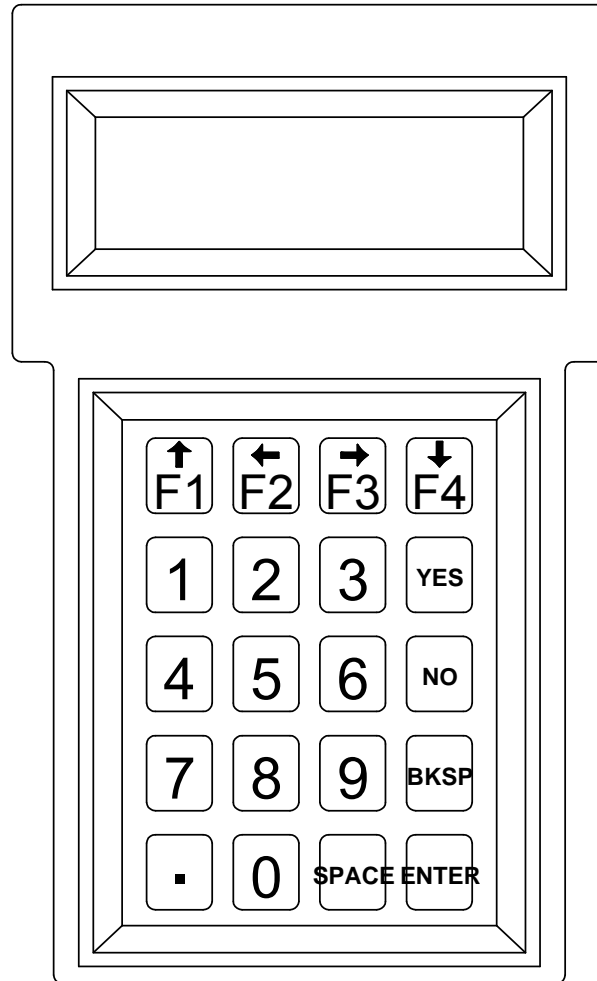

Figure 7.6 Hand-Held Terminal
- **Hand-held Terminal (HHT):** An optional item that can be used to access the Tx and Rx Systems for local M&C via ports J1 (the A: side IBUC) and J8 (the B: side IBUC) for Tx Systems and port J1 for Rx Systems. The HHT has a 4-row x 20-column display with four function keys (F1-F4), a numeric keypad (0-9), and YES, No, BKSP (backspace), SPACE, and ENTER keys. Initiate the HHT session by typing “....” (4 dots), followed by the password. The default password is 1234. Figure 7.6 depicts the HHT.